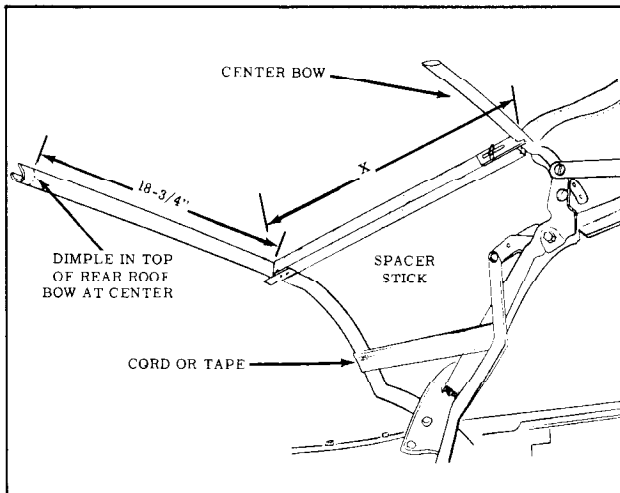

Fig. 17-26 Installation of Spacer Sticks
12. Lock top to windshield header. Install radius end of each adjustable spacer stick to fit against center roof bow. Install opposite end of spacer stick so that metal plate fits under rear roof bow. (Fig. 17-26) Spacer sticks should be installed along inboard edge of side
13. Temporarily tie or tape rear bow to rear side roof rails. (Fig. 17-26) Detach nylon webbing, side stay pads and back curtain assembly from rear bow.
- If new top is being installed but it was impossible to perform Step 12 of removal procedure, preset spacer sticks to shortest length and install between center and rear roof bow. (Fig. 17-26) Adjust sticks so that dimension "X" (measured along spacer stick from front upper rolled edge of rear roof bow to center of center bow) is $16-3/8" \pm 1/4"$. Tie or tape rear bow to rear side roof rails.